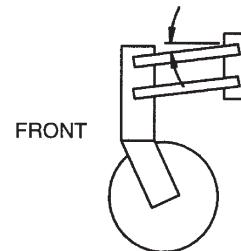

Figure 19. Stabilizer Strut
2. Adjust up and down so the parallel linkage is low in the front in operating position. See Figure 19. This allows maximum upward travel when operating. Pin #10 limits the downward travel of the wheel for road transport. This may be left installed when operating.